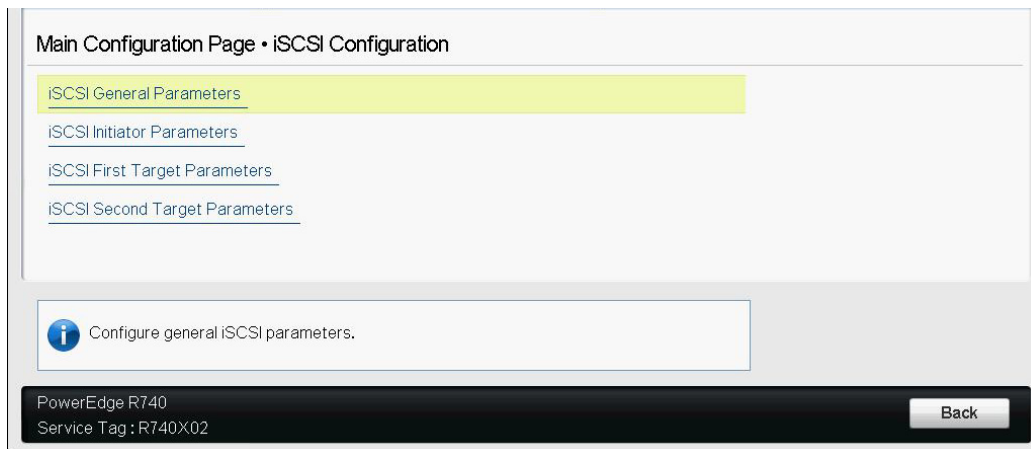

Figure 9-7. System Setup: Selecting General Parameters
2. On the **iSCSI Configuration** page, select **iSCSI General Parameters** (Figure 9-7), and then press ENTER.